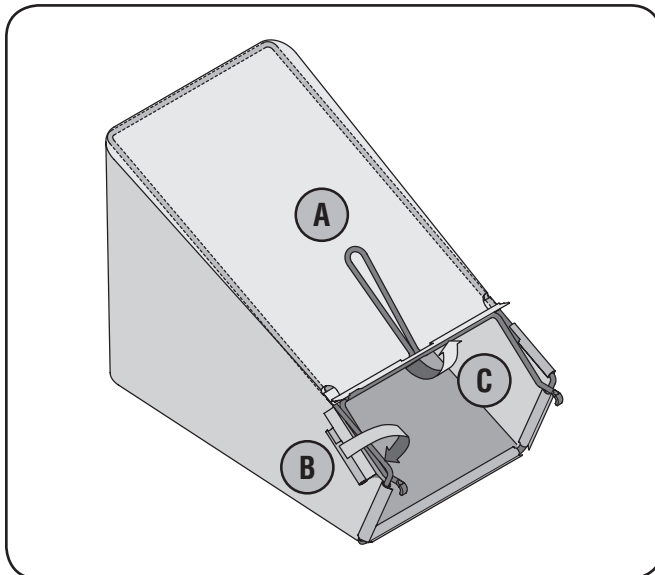

Figure 3-4
- b. Slip plastic channel of grass bag over hooks on the frame. See Figure 3-4. All the plastic channels except center top of bag attach from outside of bag.